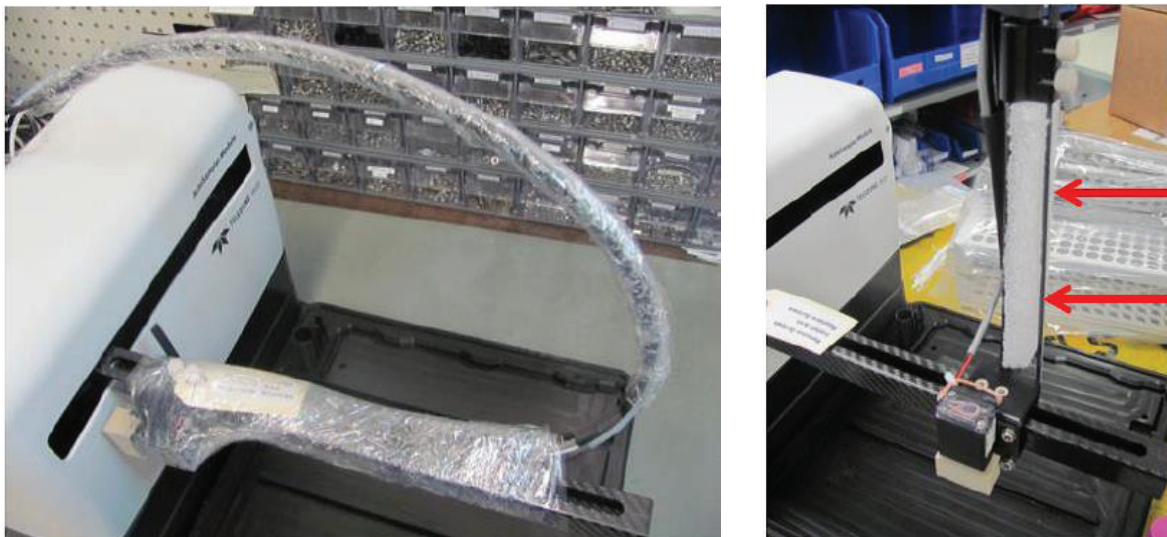

Figure 2-15 AutoSampler Module and Z-Drive
1. Carefully unpack the Z-Drive and remove the packing materials from the Y-axis arm (Figure 2-15).